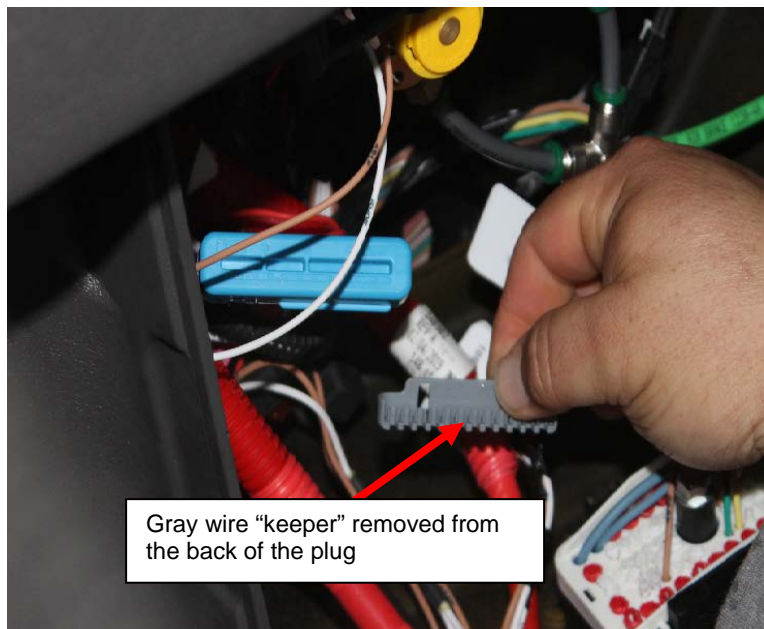

Figure 5: Wire Keeper Removed from the Back of the Plug
4. Remove the gray wire “keeper” and set aside. See **Figure 5**.